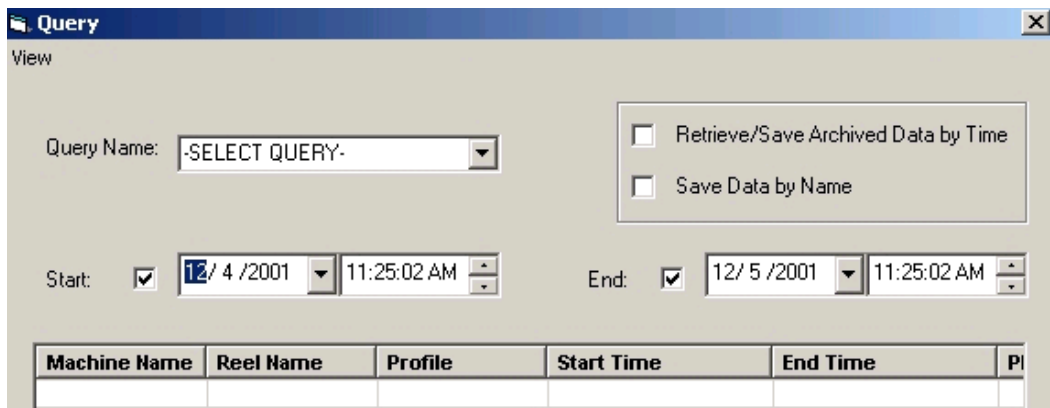

Figure 64. Initial Query Dialog
1. Choose **Configure>Query** from the **Menu Bar**. This displays the Query dialog, Figure 64.